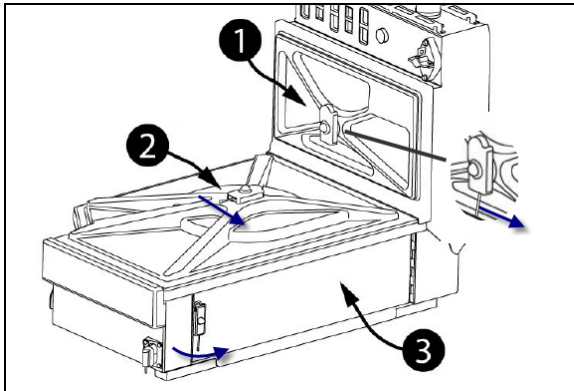
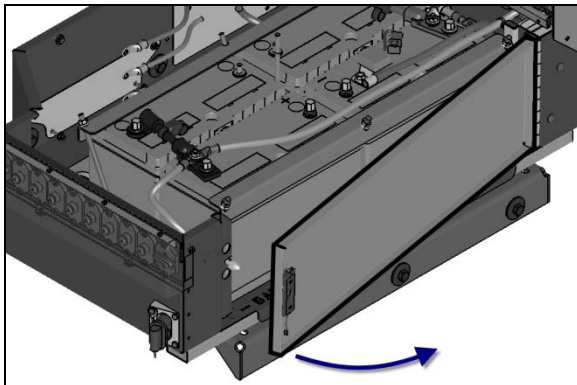

FIGURE 16: BATTERY PROTECTIVE COVER REMOVAL
FIGURE 17: LATERAL PANEL OPENING
1. Remove the battery compartment protective covers by pulling the rod on the spring latch to release and lift cover. Starting with (1) then (2) (Figure 16).
2. Lateral access panel (3) is hinged. Release it by pulling on the spring rod and swing open. (Figure 16 & Figure 17). Panel assembly is reverse of removal.